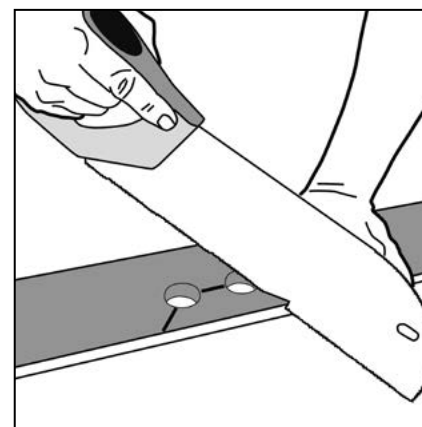

Figure 55 Radiator pipes
- ▶ Further drill the hole with a spade bit wide enough to accommodate both the diameter of the pipe and the required expansion gap. Cut around as shown with a saw or sharp utility knife; (Fig 55).